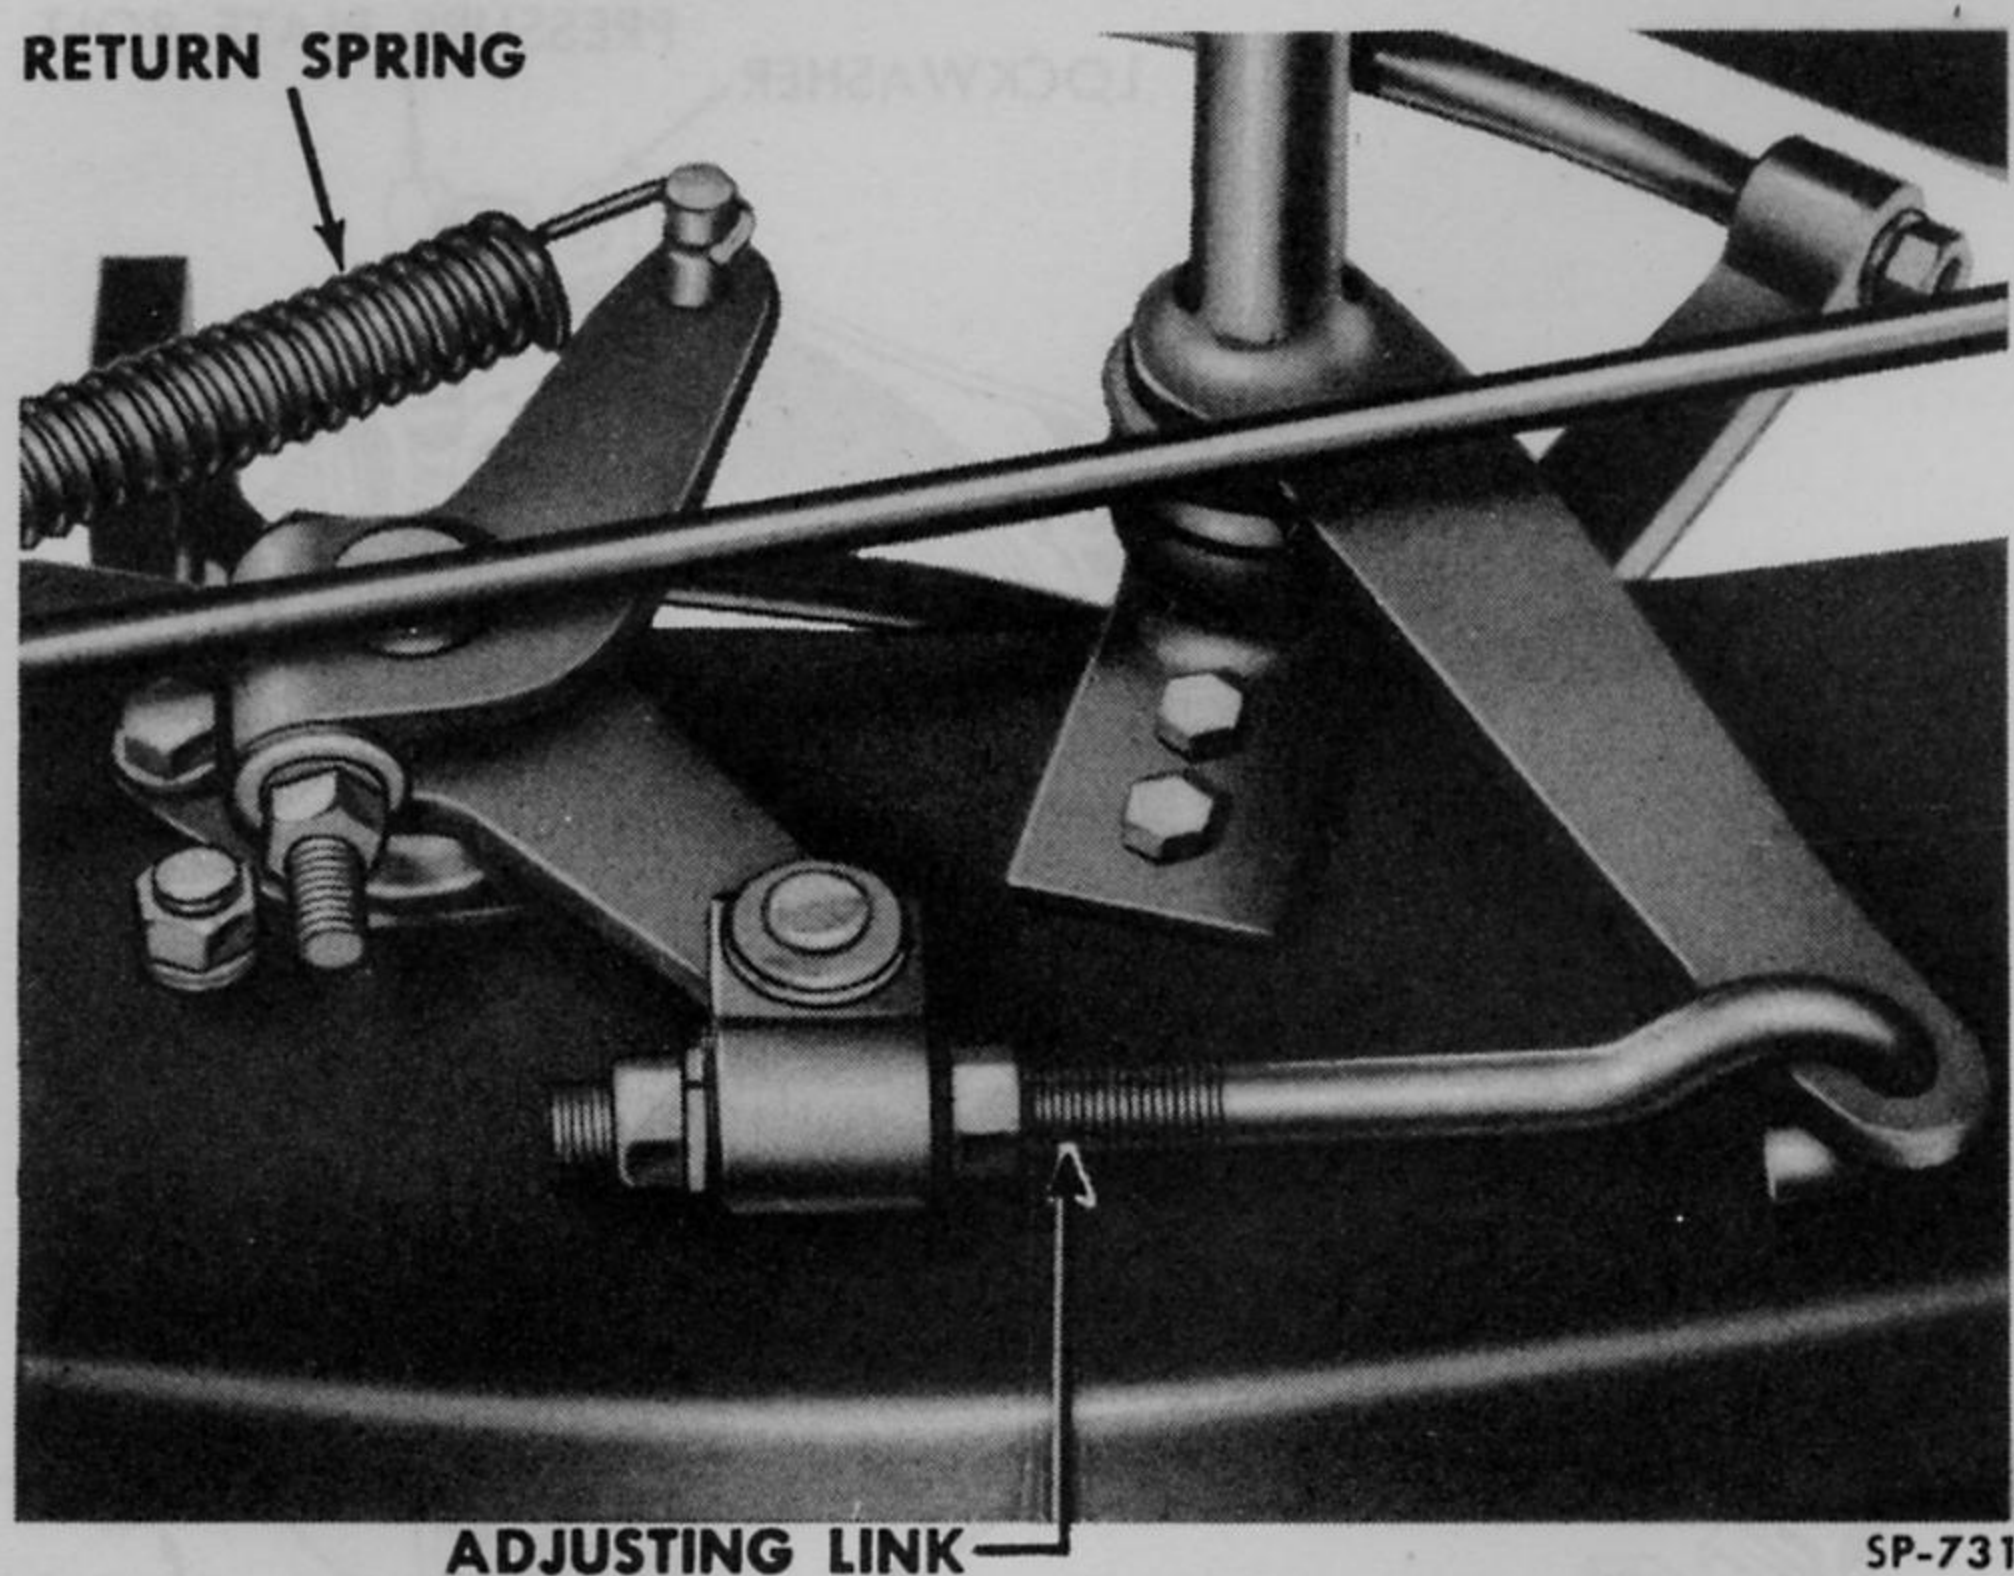

Fig. 166—Kaiser Clutch Pedal Linkage Adjustment
1. Clutch Pedal Adjustment—Kaiser. To adjust the clutch pedal free travel, loosen the two lock nuts on the pedal adjusting link (Fig. 166). Turn the nuts forward to decrease or backward to increase the free travel. After pedal free travel of $\frac{3}{4}$ to 1 inch, 1 inch preferred, is established, tighten both lock nuts against the adjusting link guide, being careful not to change the adjustment.
a. LINKAGE REMOVAL—KAISER. During the removal of the linkage careful inspection of the components should be made to determine if wear or distortion has occurred. Worn or distorted parts should be replaced. Procedure for clutch linkage removal follows (Refer to Fig. 166).